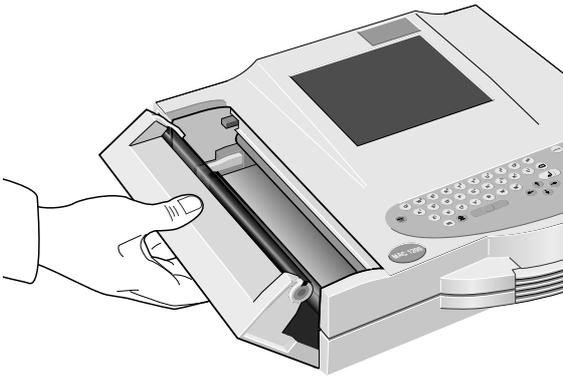

Figure 10-1. Opening the paper compartment door
- Holding the paper door at the handle, pull it up and fold it out (Figure 10-1).